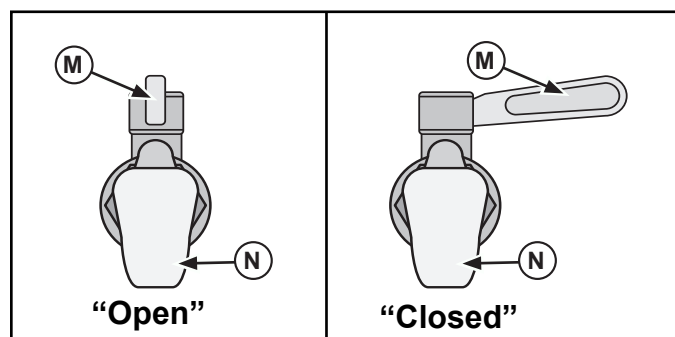

Figure 4. Drain and Drain Lever Positions.
1. For units with baths check that the drain valve lever (M) is in the closed position. See Figure 4. Or, clamp the circulator to a vessel that is 5.3 qt (5L) to 31.7 qt (30L) in volume.